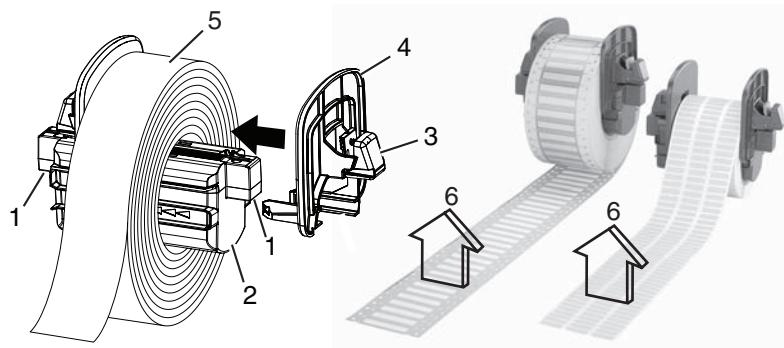

Figure 20, Material Supply Holder
2. Remove the material supply holder (**Figure 20, 2**) from the printer by lifting it up and out of the frame.
There are electrical contacts located under the side tabs (**Figure 20, 1**) on both sides of the material supply holder. Be careful not to damage these electrical contacts or the Brady IP Printer will be unable to read the material identification tag on the labels.
3. Press and hold the green tab (**Figure 20, 3**) on the material supply holder and slide the end piece (**Figure 20, 4**) outward.
4. Slide the Brady labeling material roll onto the material supply holder. Make sure material roll is installed with label printable side (up) towards printhead (**Figure 20, 6**). Reinstall the end piece (**Figure 20, 4**), which will automatically center the roll on the holder.
5. Reinsert the material supply holder onto the bracket grooves on the frame. Ensure the electrical contacts under the side tabs (**Figure 20, 1**) are properly seated in the frame so the printer will correctly read the material identification tag.